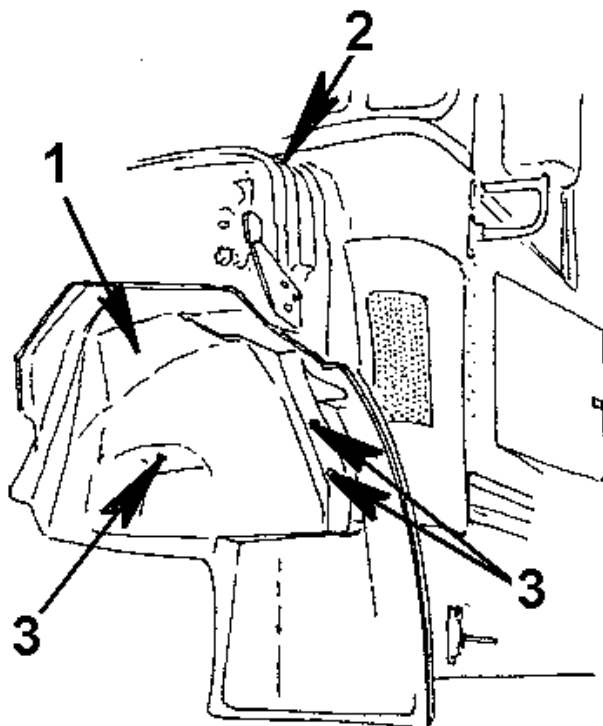

Figure 38 Fender Extension Assembly
2. Locate the fender extension mounting bolts and nuts on the fender extension assembly (Figure 38, Item 3).
3. Loosen and remove the three mounting bolts (Figure 38, Item 3) on the rear surface of the fender extension.